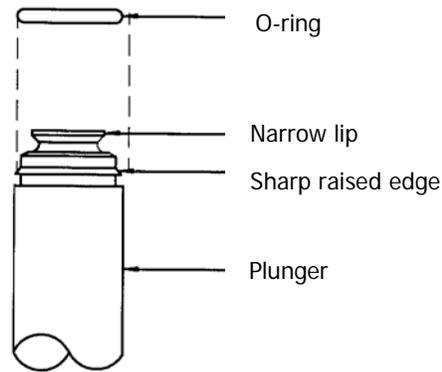

Figure 30 Plunger and O-ring configuration
5. Remove the seal from the plunger tip using a pair of pliers and gripping the seal approximately one third of the way down (Figure 30).